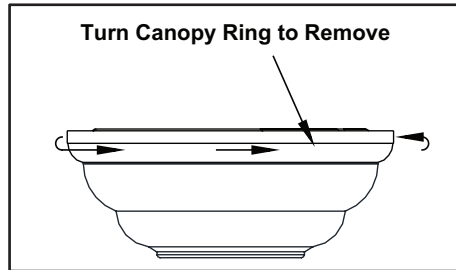

Figure 5
1. Remove the canopy from the canopy by turning the ring to the right until it unlocks. (Figure 5)